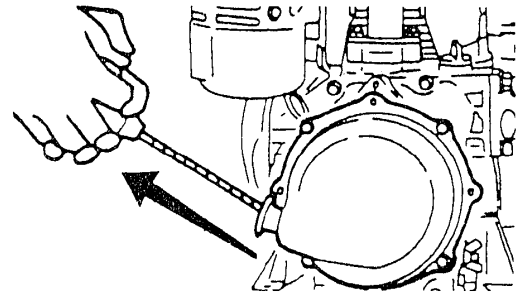

Figure 16. Engine Start Handle
3. Grasp the starter grip (Figure 16) and slowly pull it out. The resistance becomes the hardest at a certain position, corresponding to the compression point. Pull the starter grip briskly and smoothly for starting.